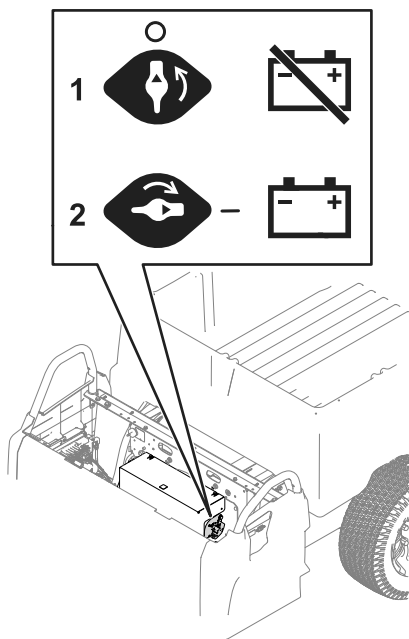

Figure 44
3. Move the battery-disconnect switch to the desired position as shown in Figure 44.